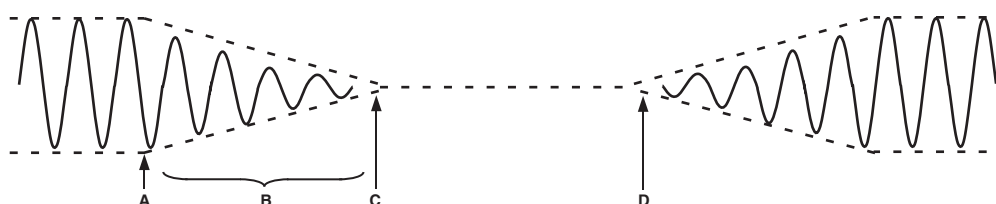

Figure 18. Recommended Sequences for Complete Parameter or Program RAM Upload Using Shutdown Mechanism
When writing large amounts of data to the program or parameter RAM, the processor core should be halted to prevent unpleasant noises from appearing at the audio output. Figure 18 shows a graphical representation of this mechanism's volume envelope. Points A to D are referenced in the following description. Bit <10> in serial Control Register 0 (processor shutdown bit) will shut down the processor core. When the processor shutdown bit is asserted (A), an automatic volume ramp-down sequence (B) lasting from 10 ms to 20 ms will occur, followed by a shutdown of the core. This method of shutting down the core prevents pops or clicks from occurring. After the shutdown is complete, Bit <1> in Control Register 1 will be set. The user can either poll for this bit to be set, or just wait for a period longer than 20 ms.